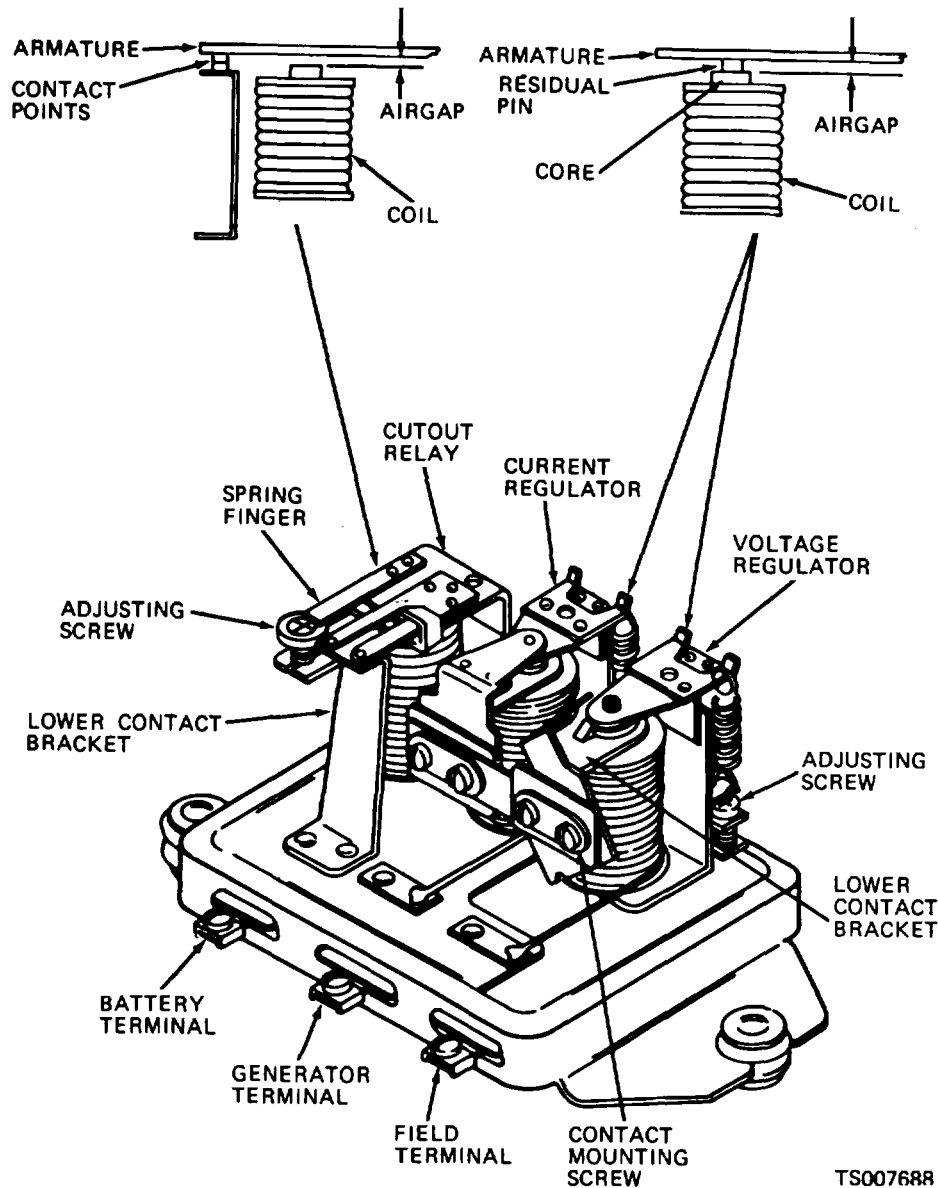

Figure 4-15. Voltage Regulator, Cover Removed
*a. Testing and Adjustment.* Figure 4-15 illustrates the voltage regulator with the cover removed to identify the internal parts of the regulator.